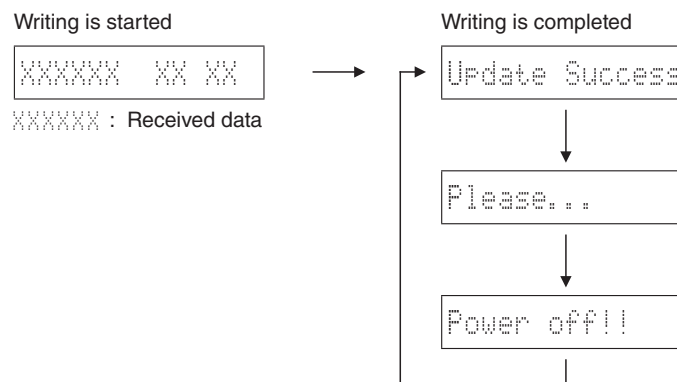

Fig. 3
2. Play the firmware CD on the CD/DVD/BD player. Writing of the firmware starts automatically. (Fig. 3)
3. When writing of the firmware is completed, "Update Success", "Please..." and "Power off!!" are displayed repeatedly. (Fig. 3)